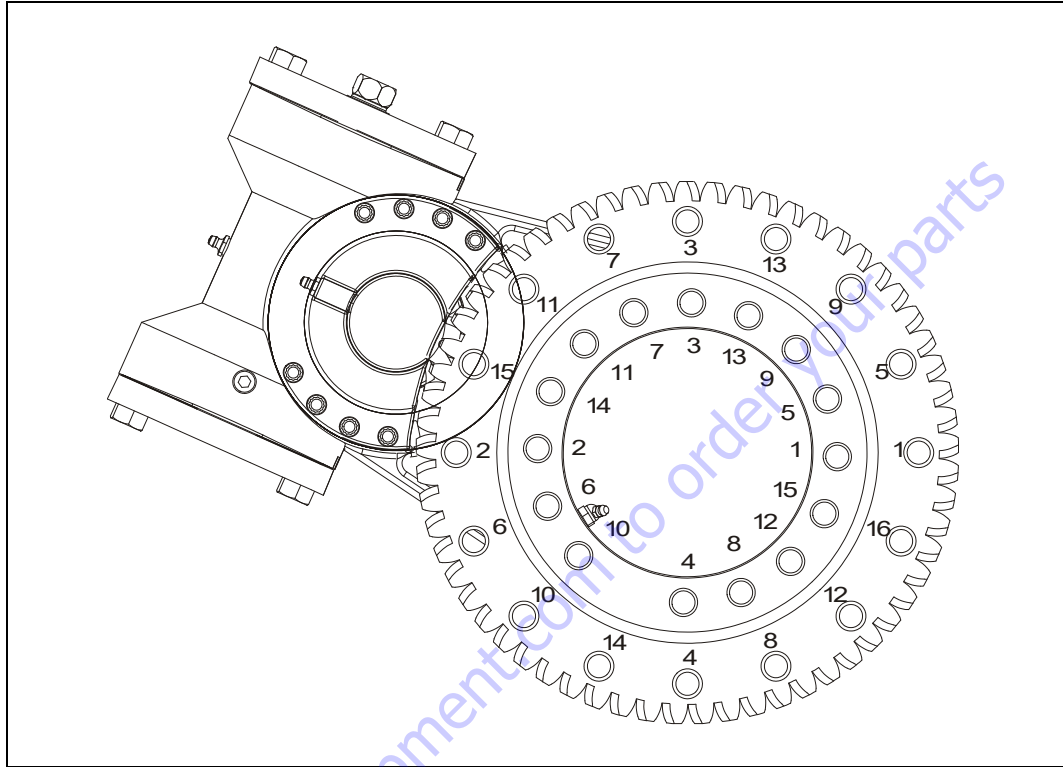

Figure 3-30. Swing Bearing Torque Sequence
- b. Line up high spot (blue) of bearing with center tooth of worm gear. Set backlash to 0.008 - 0.010 inch (0.20 - 0.25 mm). Tighten capscrews as shown in Figure 3-30., Swing Bearing Torque Sequence.
- f. Following the torque sequence diagram shown in Figure 3-30., Swing Bearing Torque Sequence, tighten the bolts to an initial torque of 140 ft. lbs. (190 Nm). Then following the same sequence, tighten to a final torque of 190 ft. lbs. (260 Nm).
- k. Following the torque sequence shown in Figure 3-30., Swing Bearing Torque Sequence, tighten the bolts to an initial torque of 130 ft. lbs. (175 Nm). Then following the same sequence, tighten the bolts to 190 ft. lbs (260 Nm).